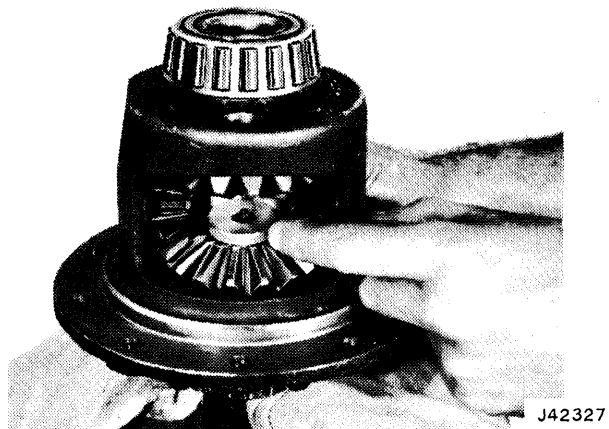

Fig. 10-62 Installing Step Plate
(10) Remove pinion mate shaft using hammer and brass drift.
(11) Install step plate in lower differential side gear (fig. 10-62).